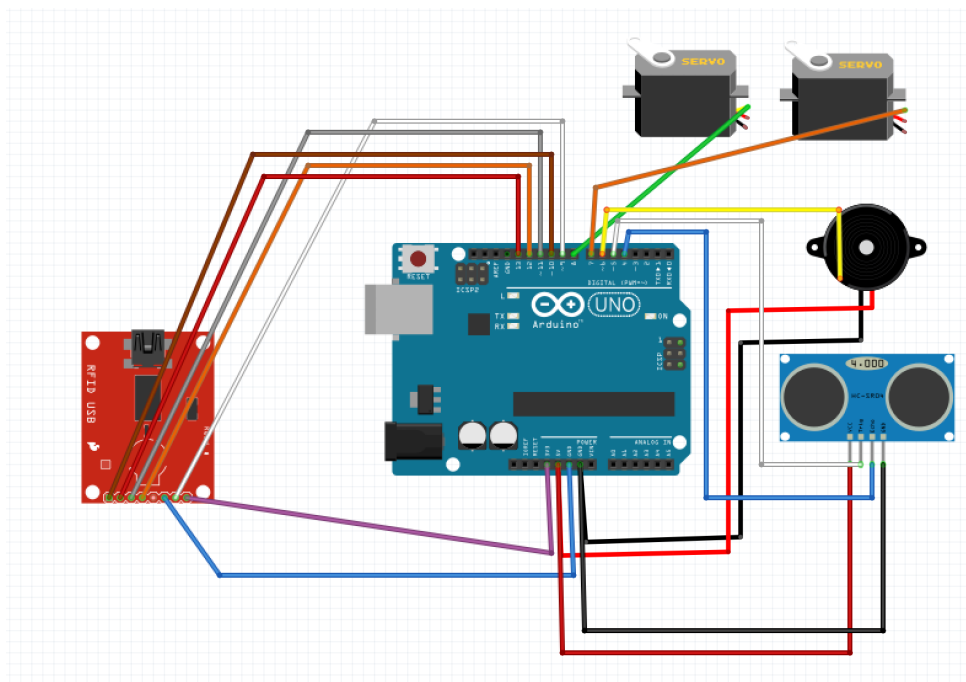

Figure 10: wiring diagram of Arduino uno with RFID, servo's, Ultrasonic sensor and buzzer in the garage
4. The RFID connections are as follows, SDA - 10, SCK - 13, MOSI - 11, MISO - 12, GND - GND, RST - 9, VCC - 3.3V. The colours of the wiring is shown in the Figure 10